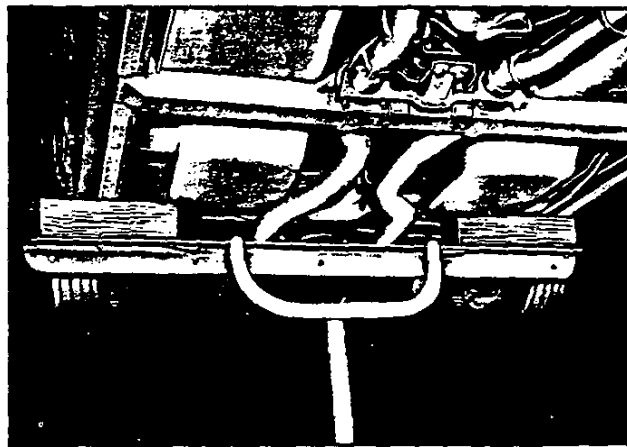

Fig. 6—Frame Lift Adapters—Corvette
- b. If rear axle work is contemplated, use either suspension adapters or drive-on adapters at the front and frame lift adapters as shown in Figure 6. If frame lift adapters are not available, use jack stands.
**NOTE:** Wooden blocks, bolted to steel beam shown in Figure 6 are necessary to allow beam to clear exhaust system.